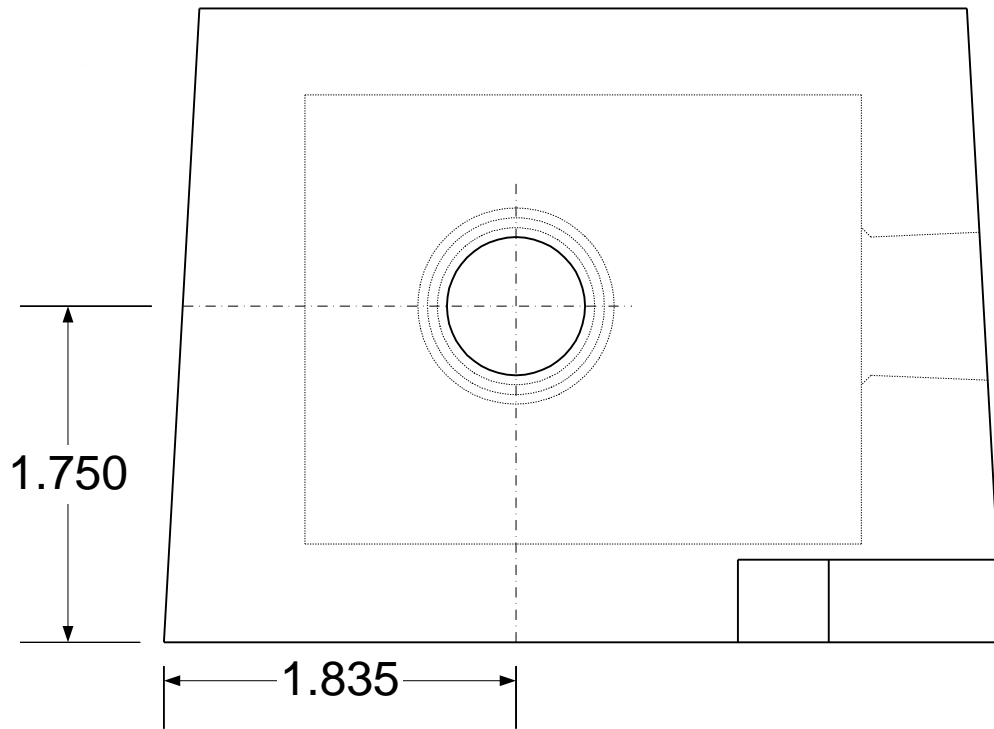

Figure 3 – Modbus RS-485 Cable 1/2" Conduit Entry on Bottom
- Figure 3 – Modbus RS-485 Cable ½” Conduit Entry on Bottom7